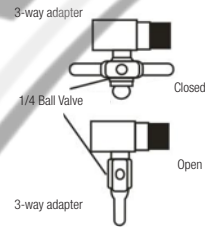

FIGURE A-3
3. Install 1/4" metal ball valve on the feedwater connection adapter (3-way adapter) by means of teflon band so as to turn on/off easily (Figure A -3).